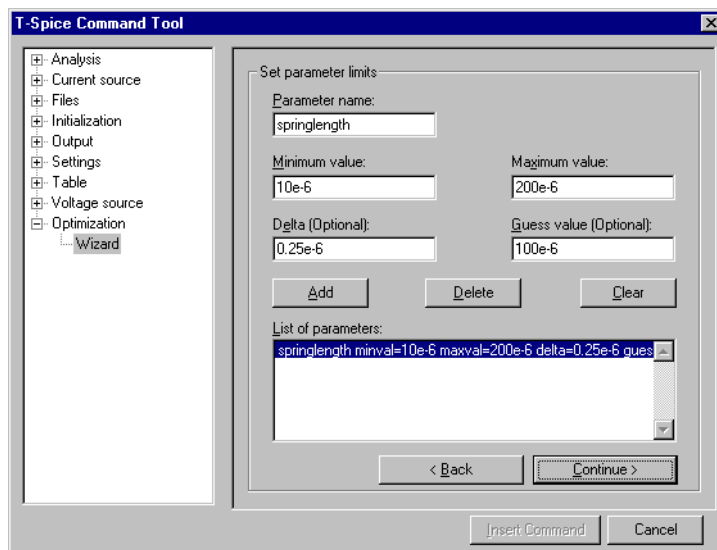

Figure 96: Customizing the parameters limits
- ☑ Set the **Parameter name** to *springlength*, **Minimum value** to *10e-6*, **Maximum value** to *200e-6*, **Delta (Optional)** to *0.25e-6*, and **Guess value (Optional)** to *100e-6* (Figure 96). Click **Add** to add the values to the **List of parameters**.